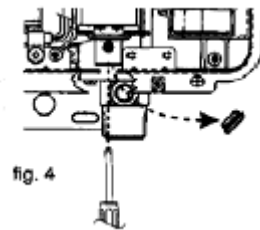

fig. 4
11. Remove rubber access plug and adjust the regulator screw on the modulating valve (fig. 4) as required to the pressure below. Replace rubber access plug.